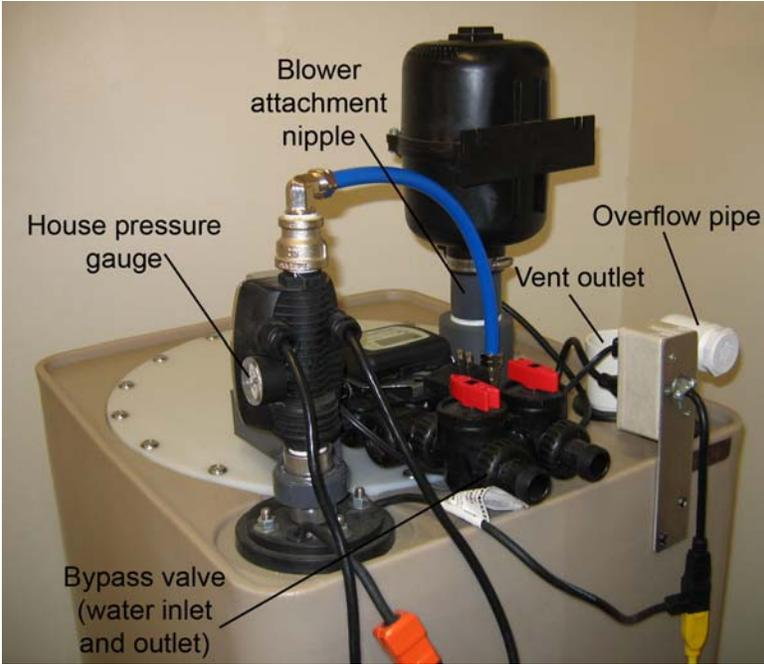

Fig. 2B Installation Points
This valve has two red handles, and is located near the back of the unit. See Fig. 2B. The valve has two positions:
2. In case of a malfunction, the unit could overflow. The Bubble-Up XP is fitted with an overflow pipe. (The overflow pipe is mounted near the rear of the unit. See Fig. 2B.) Take this into account when positioning the unit. It is best if the unit can be positioned near a drain or sump pit with a sump pump.
8. Pour one ounce of bleach into the blower attachment nipple to disinfect the unit. See Fig. 2B for location of blower attachment nipple.